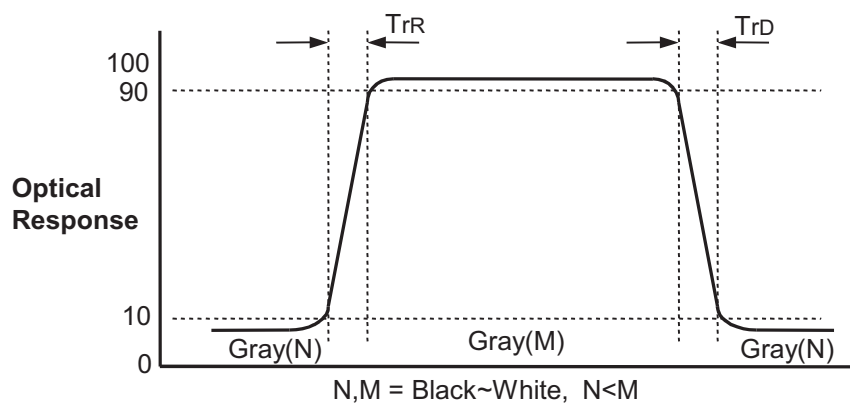

FIG. 3 Response Time
- Response time is the time required for the display to transit from any gray to white (Rise Time,  $Tr_R$ ) and from any gray to black (Decay time,  $Tr_D$ ). For additional information see the FIG. 3.